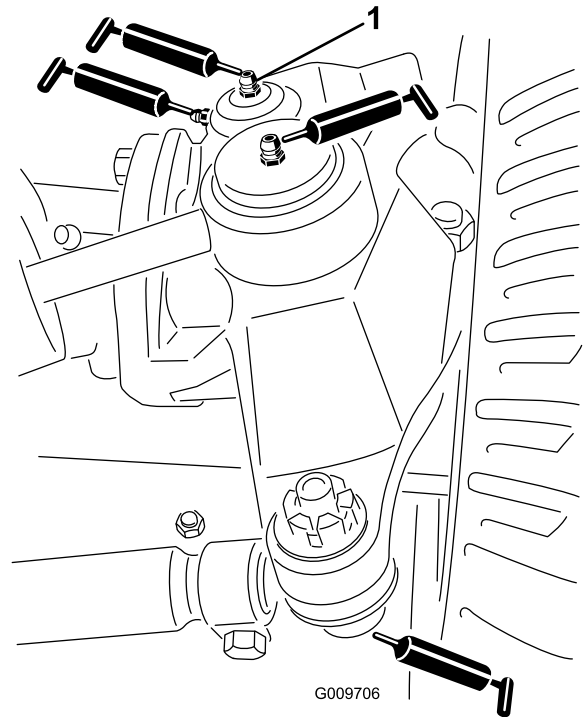

Figure 71
- Steering cylinder ball joints (2) (Figure 71)
- Tie rod ball joints (2) (Figure 71)
- King pin bushings (2) (Figure 71). **The top fitting on the king pin should only be lubricated annually (2 pumps).**